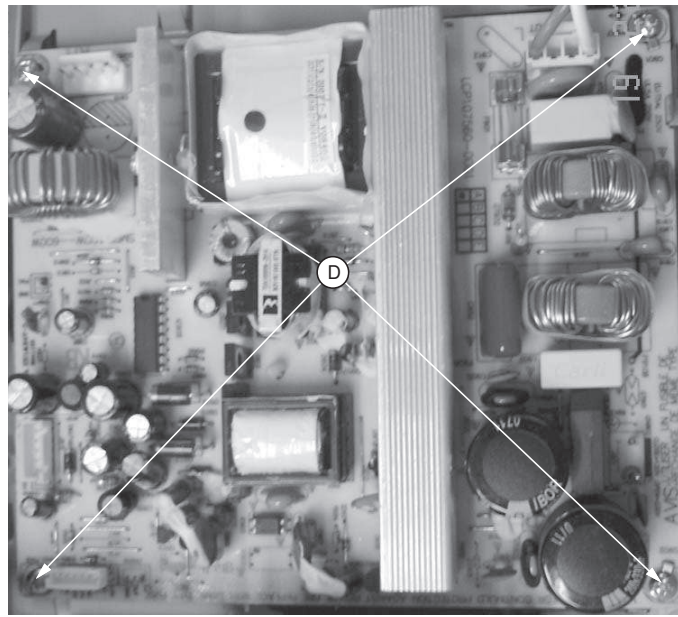

Figure 7
- 1) Loosen 4 screws "D" on the top of power board as shown in figure 7.